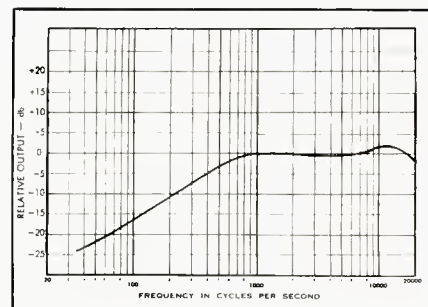

Fig. 5. Response curve from Cook Series 10 (78 rpm) test record.
*Figure 5* shows the response measured from a Cook Series 10 (78 rpm) test record without low-frequency equalization.
The output from the pickup is 15 mv for a groove velocity of 10 cm/sec, and the unit is designed to feed into a load of 27,000 ohms (used for the curve of *Fig. 5*).